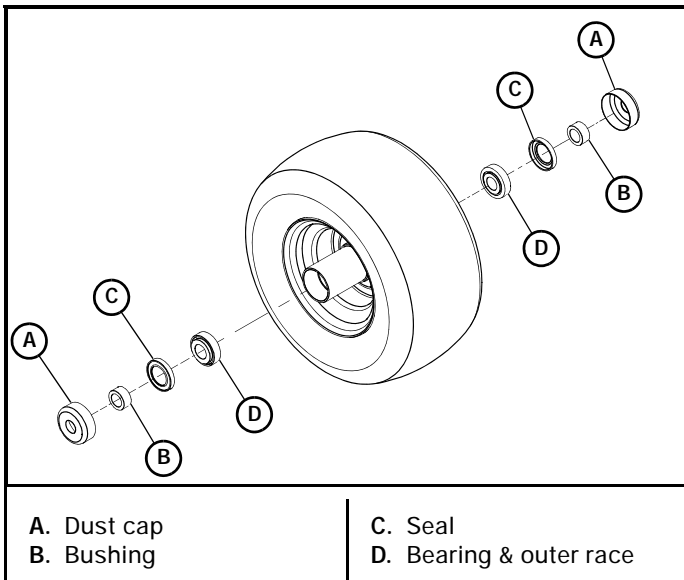

Figure 4-41
4. Remove the dust caps and bushings from the wheel housing. Retain these parts. Figure 4-41
5. Remove and discard the seals. Figure 4-41
6. Remove and discard the tapered roller bearings and outer bearing races. Figure 4-41